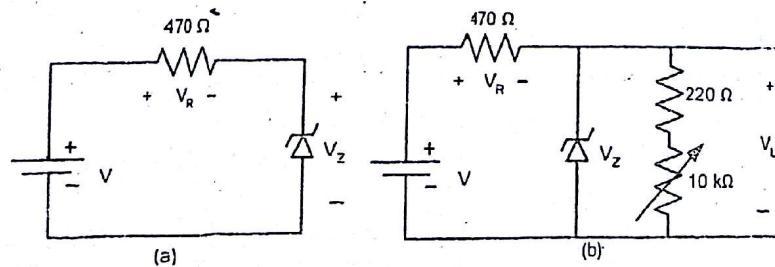

Figure 4: (a) Setup 1; (b) Setup 2
- Step 1: Connect the circuit as shown in the figure 4(a).